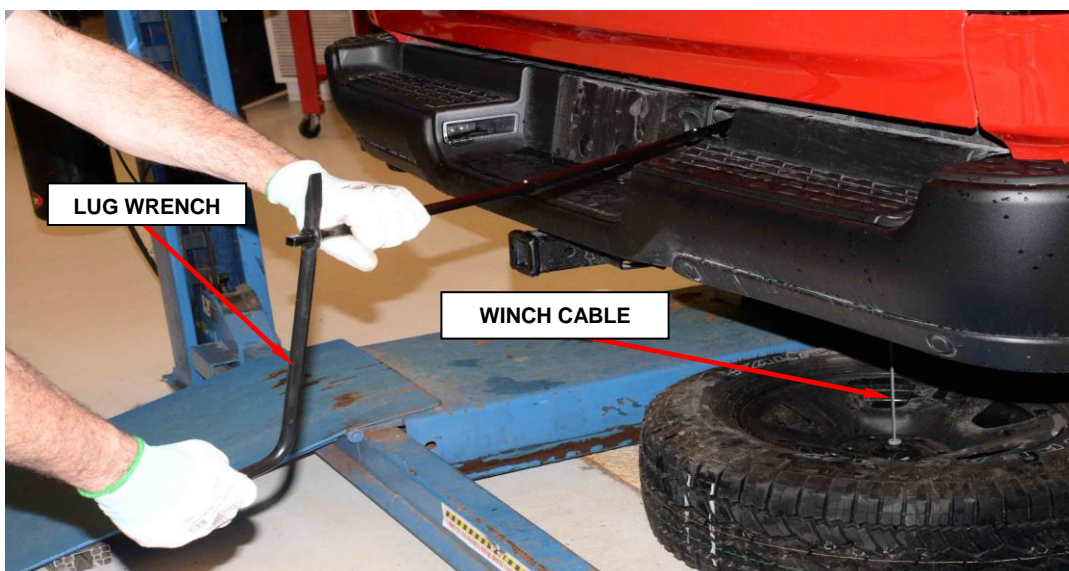

Figure 8 – Spare Tire Removal
6. Insert the tool into the cone-end of the receiving end and turn counterclockwise to lower the spare tire, then remove tire from the winch (Figure 8).
9. Turn the winch in the clockwise direction until the tire is fully retracted into the spare tire area (Figure 8).